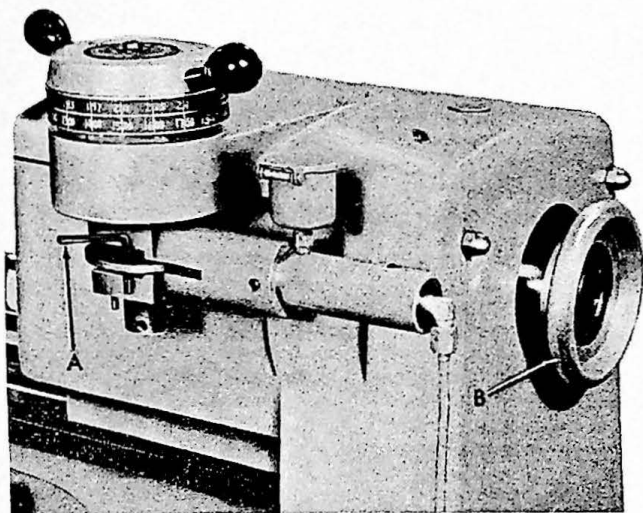
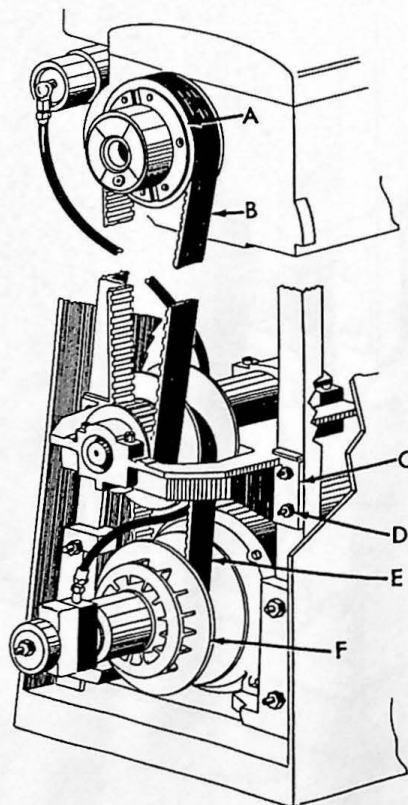
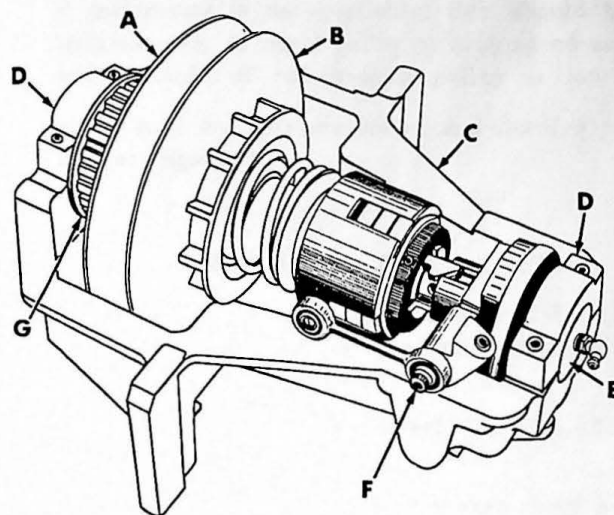
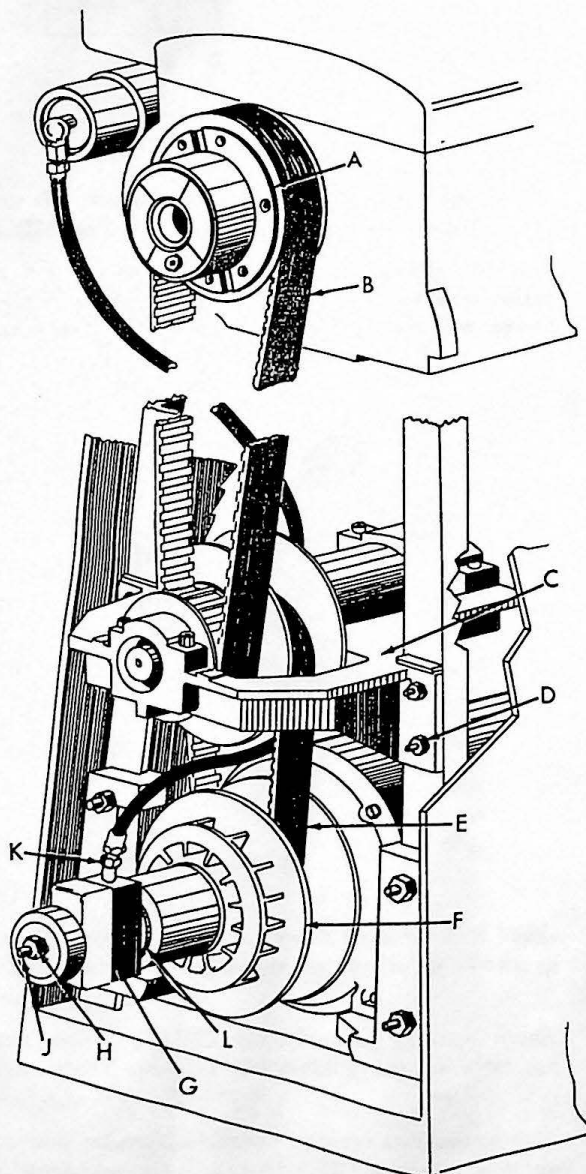

Figure 21
Figure 22
Figure 23
Figure 24
2. Remove spindle handwheel (B) (fig. 21), belt guards and front cover.
3. Turn variable dial back to lowest speed and lock dial in place with pin (A).
4. Holding variable dial against low speed stop, pull on outer sheave of lower variable motor pulley (F) (fig. 22) until variable belt (E) is loose.
5. Thru front cover opening, remove 5/16"-18 hex cap screw (F) (fig. 23) and spacer from clutch linkage.
6. Remove four hex nuts (D) (fig. 22). Raise countershaft (C) slightly and slip timing belt (B) off spindle pulley (A). Lower countershaft and slip variable belt (E) off variable motor pulley (F).
8. Remove bearing caps (D) (fig. 23), snap rings and countershaft spindle (E) from bracket (C).
11. Install spindle in countershaft bracket and secure in place with snap rings and bearing caps (D). IMPORTANT: Make sure timing belt is in place before installing bearing caps.
13. Position the countershaft (C) (fig. 22) so variable belt (E) can be slipped on motor pulley (F), then raise countershaft so timing belt (B) can be slipped on spindle pulley (A).
14. Place countershaft assembly on the four mounting studs (D), then snug up the four hex nuts. Refer to Tensioning Timing Belt steps 2-5.
16. Remove lock pin (A, fig. 21) from variable cam housing.
1. Holding variable pulley (F fig. 24) so it will not rotate, turn lock nut (H) -- clockwise if speed is too low, counter-clockwise if speed is too high.
4. Pull on outer sheave of lower variable motor pulley (F) (fig. 24) until variable belt (E) is loose.
6. Remove four hex nuts (D) (fig. 24). Raise countershaft (C) slightly and slip timing belt (B) off spindle pulley (A). Lower countershaft and slip variable belt (E) off variable motor pulley (F).
9. Remove timing belt from countershaft pulley (G).
10. Place new timing belt on countershaft pulley (G).
11. Install spindle in countershaft bracket and secure in place with snap rings and bearing caps (D). IMPORTANT: Make sure variable belt is in place before installing bearing caps.
12. Position the countershaft (C) (fig. 24) so variable belt (E) can be slipped on motor pulley (F), then raise countershaft so timing belt (B) can be slipped on spindle pulley (A).
13. Place countershaft assembly on the four mounting studs (D), then snug up the four hex nuts. Refer to Tensioning Timing Belt Steps 2-5.
15. Remove lock pin (A, fig. 21) from variable cam housing.
2. Measure distance from end of shaft (J, Fig. 24) to locknut (H). **NOTE:** Record this dimension.
3. Disconnect fitting (K) and drain oil from unit.
4. While holding variable pulley (F) from rotating remove locknut (H).
5. Pull dual hydraulic cylinder (G) and outer half of variable pulley (F) off the shaft (J).
6. Press dual hydraulic cylinder (G) with bearing (L) from variable pulley (F).
7. Slide new dual hydraulic cylinder with bearing into variable pulley hub (F), then slide the assembly onto shaft (J).
8. Start locknut (H) on shaft (J).
9. Hold the variable pulley so it will not rotate and then turn locknut (H) onto shaft (J) until distance from the end of the shaft (J) to locknut (H) is the same as step 2.
10. Start fitting (K) onto hydraulic cylinder (G). **NOTE:** Do not tighten.
12. Keep oil reservoir filled, hold variable dial against low speed stop until oil runs out around fitting (K) – it takes a few minutes for oil to run down.